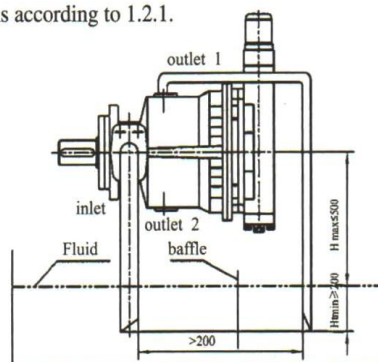

Fig. 4
- b) If the minimum fluid level is equal to or below the top of the pump, pipe ports "outlet 1" and possibly "inlet" as Fig. 4.; close port "outlet 2".
- a) When mounting above the reservoir, see Fig. 4.